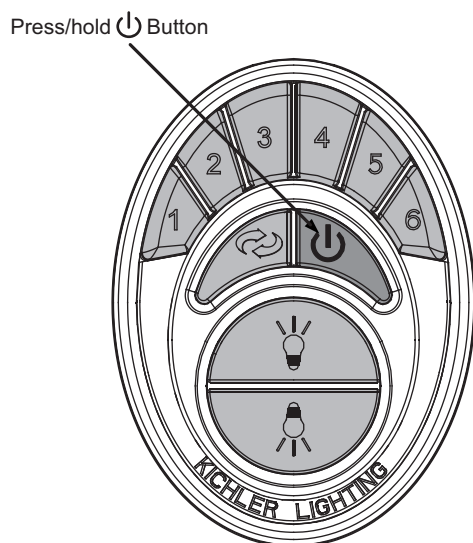

Fig. 14
4. Follow the below steps to set the remote control: The auto learning function will only mandate within 60 seconds when turning the fan's AC power ON. (Figure 14)